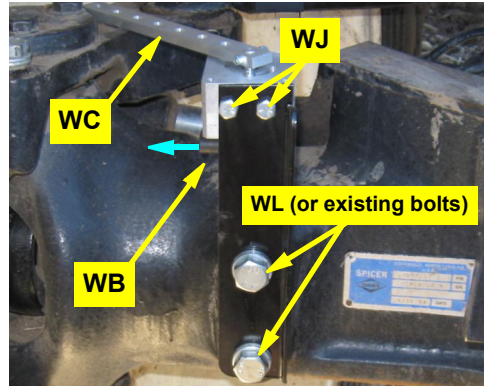

Figure 2b: Installed WAS assembly
b. Using hardware **WJ** install the WAS assembly on its mount **WK** (Figure 2b). Mount the assembly: